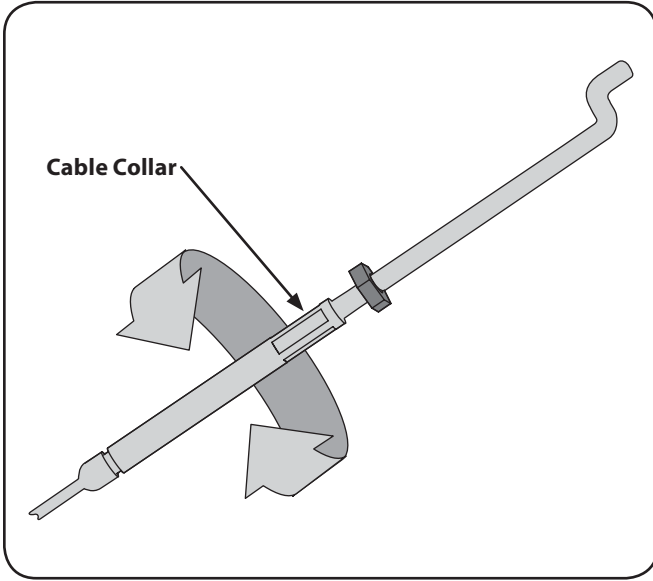

Figure 6-3
- Turn the cable collar section one or two turns to increase or decrease tension on the cable. See Fig. 6-3.